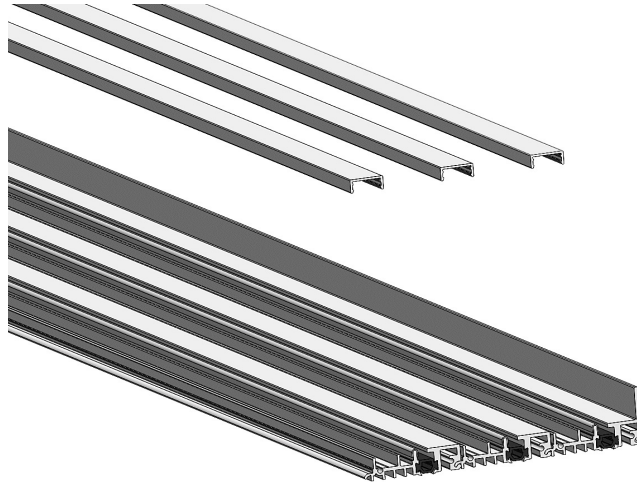

Figure 5
12. Set the sill assembly onto the bed of sealant and align the sill with marks on the floor. Shim the sill assembly as required and secure the frame with adequate anchor screws for your application. Shims to be spaced no more than 6" apart. Once the sill is anchored to the floor, verify that it is 100% flat and level in all directions. After verification, locate, and apply all snap-in beauty covers to conceal the anchor screws and create a flat surface for the panels to seal against. (See Figure 5)